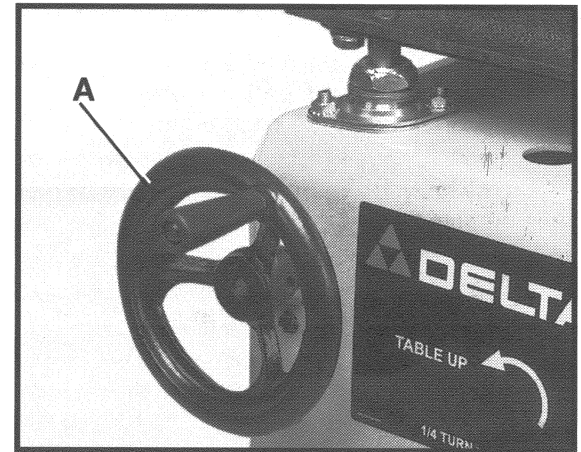

Fig. 16
To raise the feed table, turn the handwheel (A) Fig. 16 counter-clockwise. To lower the feed table, turn hand-wheel, (A) Fig. 16 clockwise. **NOTE:** Each 1/4 turn of handwheel (A) will increase or decrease the height of the table by 1/64".